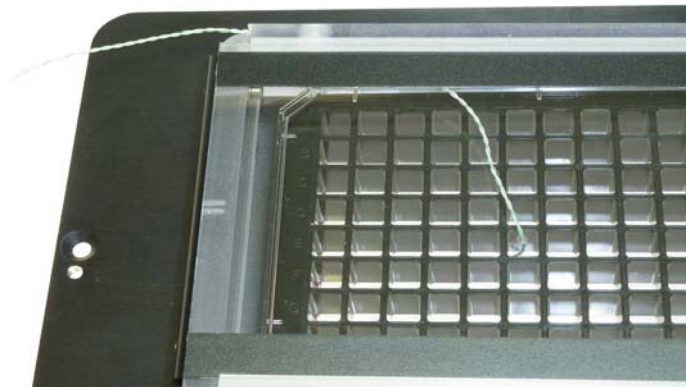

Figure 3: Sensor Placement for Temperature Calibration
- 2) Fill the multi-well plate you want to use with medium and place the sensor as close as possible to the future position of the cells. Use the prepared calibration set, which consists of a μ -Plate 96 well with a perforated lid, as shown in Figure 3.